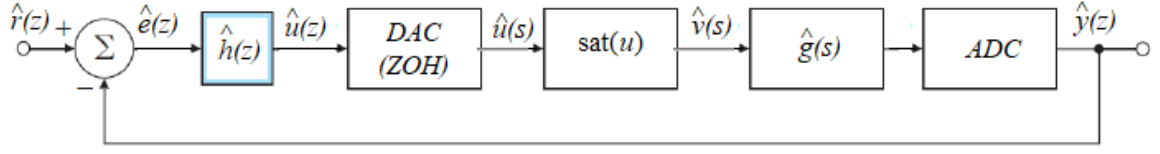

Figure 3: Digital control of an analog process subject to actuator saturation.
3) Consider the control system of Fig. 3 with
- Determine a digital filter approximations of $\hat{h}(s)$ in (5) considering the Tustin approximation without prewarping.
- Design an antiwindup scheme for the integral action. Compare the unit step response of the closed-loop system of Fig. 3 with and without control saturation block and with and without antiwindup mechanism.